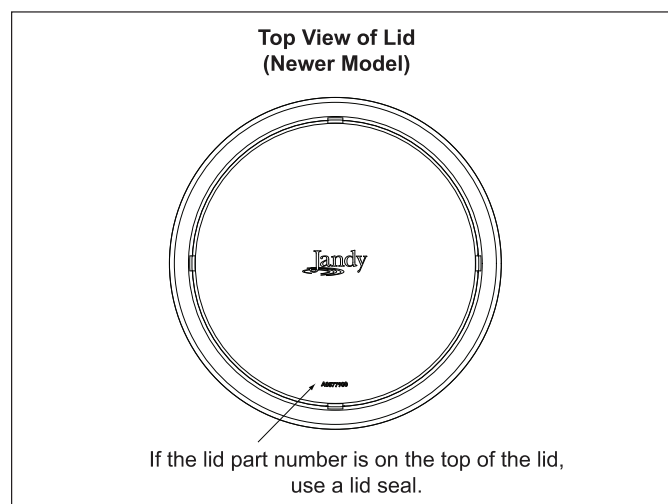

Figure 3. Newer Model Uses Lid Seal
- b. If the lid part number is on the top of the lid (see Figure 3), your pump lid is a newer model and uses a lid seal. Go to step 3.